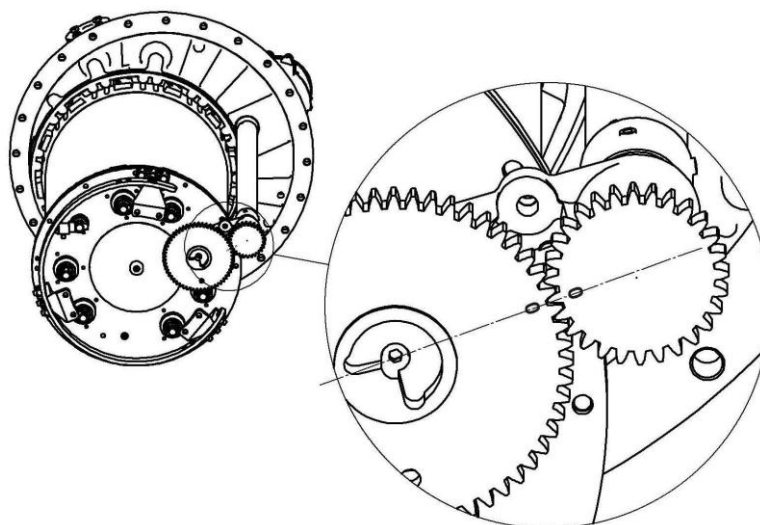

Fig.14 – Marking “O” of the gear wheels of the oil compartment
5.1.5. The gear wheels of the oil compartment are in a position shown in Fig. 14 (see marking “O”).